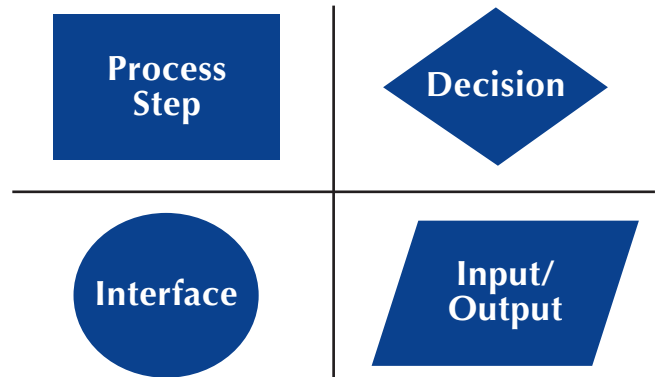

Figure 1: The four common symbols for process mapping
4. Discuss and decide on the boundaries of your process. Where or when does the process begin? Where or when does it stop? Discuss and decide on the level of detail to be included in the diagram. Agree on the symbols to be used. See Figure 1 for the four common symbols for process mapping.